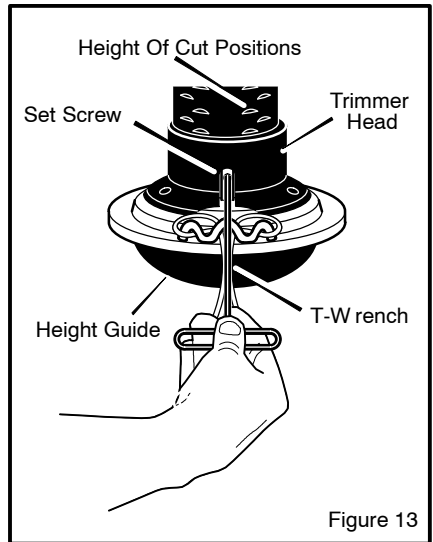

Figure 13
- Trimmer head contact to concrete, asphalt and harder services may create premature wear to the **height guide** (See Figure 13).
1. Use the **T-wrench**, found in the parts bag, to loosen the **set screw** shown in Figure 13.